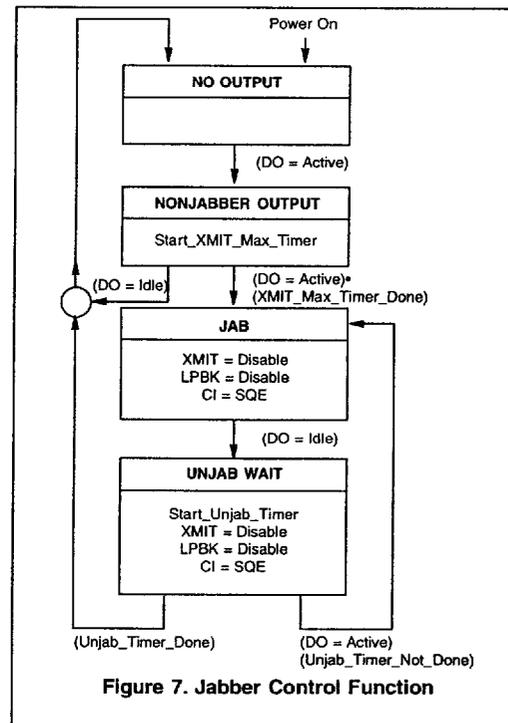

Figure 7. Jabber Control Function
Figure 7 is a state diagram of the MB86961(A) Jabber control function. The MB86961(A) on-chip watchdog timer prevents the DTE from locking into a continuous transmit mode. When a transmission exceeds the time limit, the watchdog timer disables the transmit and loop-back functions, and activates the JAB pin. Once the MB86961(A) is in the jabber state, the TXD circuit must remain idle for a period of 0.25 to 0.75 seconds before it will exit the jabber state.